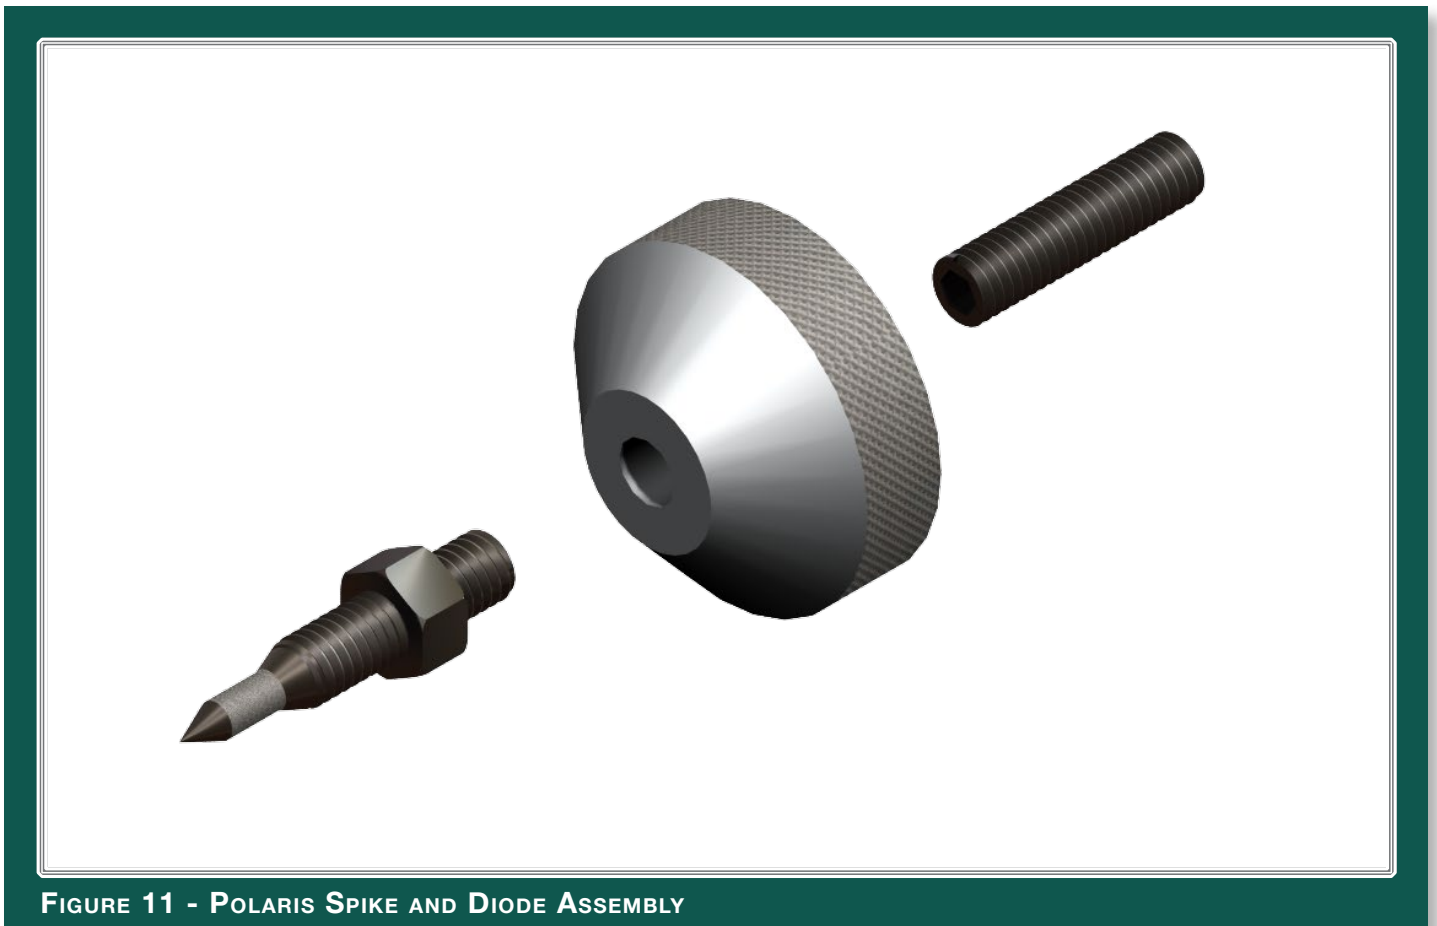

FIGURE 11 - POLARIS SPIKE AND DIODE ASSEMBLY
3. Place the set screw into the other end of the diode with the Allen head toward the spike. This will ensure that if for any reason you have to remove your Polaris spikes, you will be able to withdraw the set screw safely using the supplied Allen wrench. Screw the set screw into the diode until it meets the spike (see Figure 11).